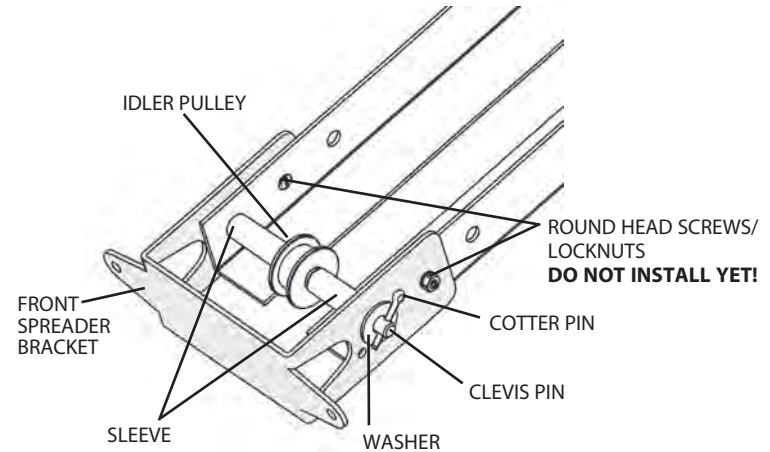

Figure 5
5) Install the idler pulley inside the track by inserting the 3/8" x 4-1/2" clevis pin through one side of the track and as you feed it through an idler sleeve and the idler pulley followed by the second sleeve. Place fender washer (7/16" x 1-1/4") over end of clevis pin. Secure clevis pin using cotter pin. **Fig. 5.**